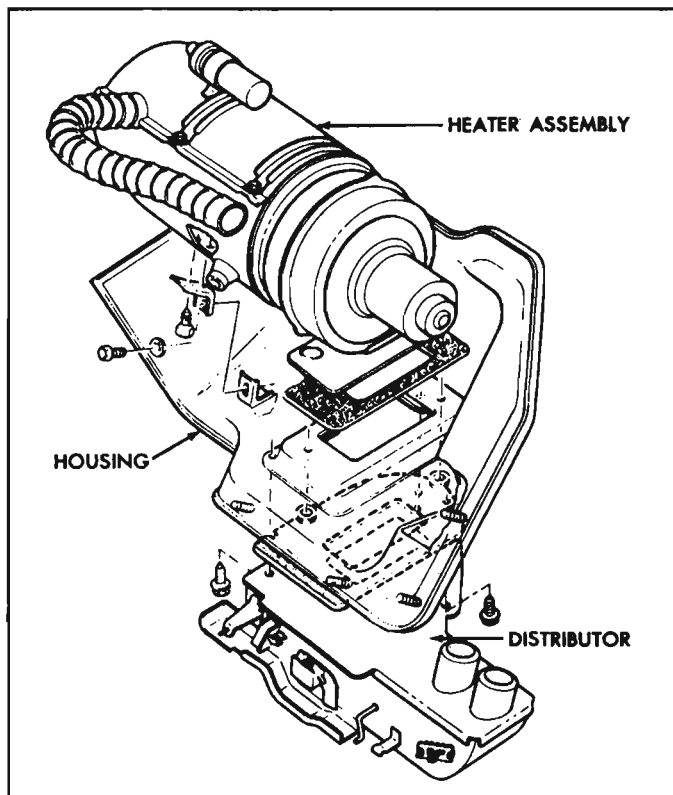

Fig. 11-32—Distributor and Heater Assembly Removal
3. Remove the three screws (fig. 11-32) attaching the distributor to the housing.
Removal (fig. 11-32)